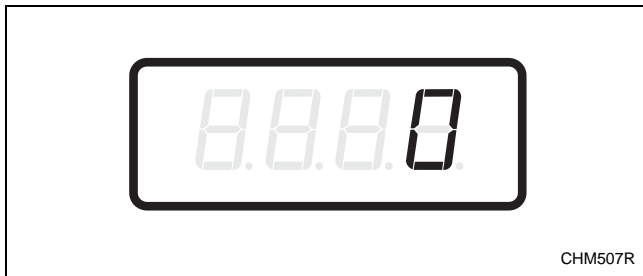

Figure 17
2. When “SA13” appears in the display, press the START (enter) keypad. There are five digits in the Special Vend A NORMAL/COLD Vend Price. The fifth digit will appear in the display and will flash one (1) second on and one (1) second off. Refer to *Figure 17*.